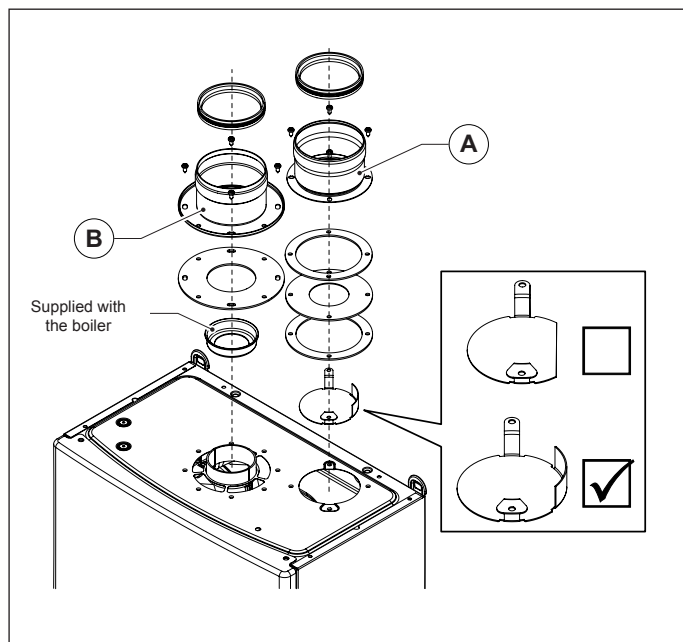

Fig. 10 OSDOPPIA13
- Install the specific air deflector (see Fig. 10 OSDOPPIA13).